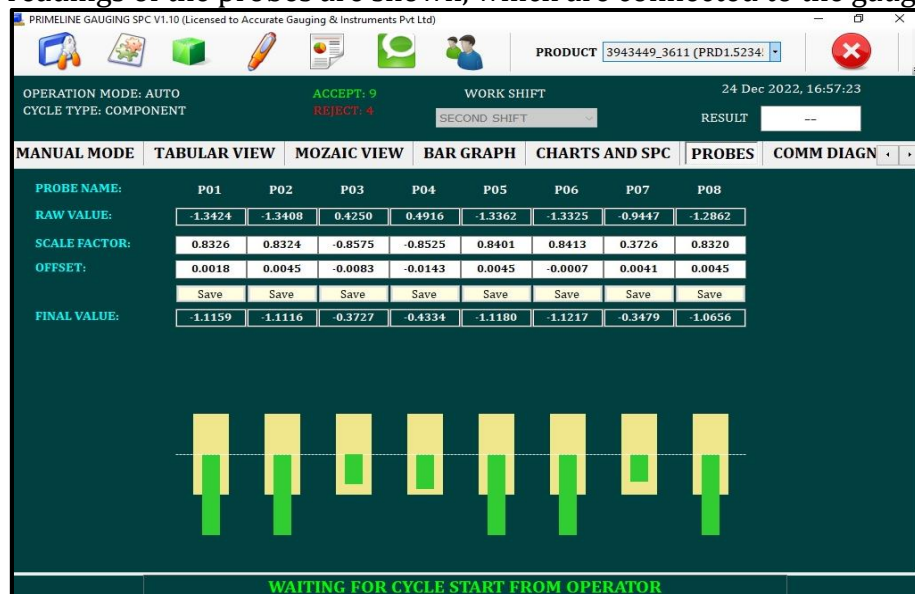

Figure 8
- Click on the probes tab. The following window can be seen in figure 8.